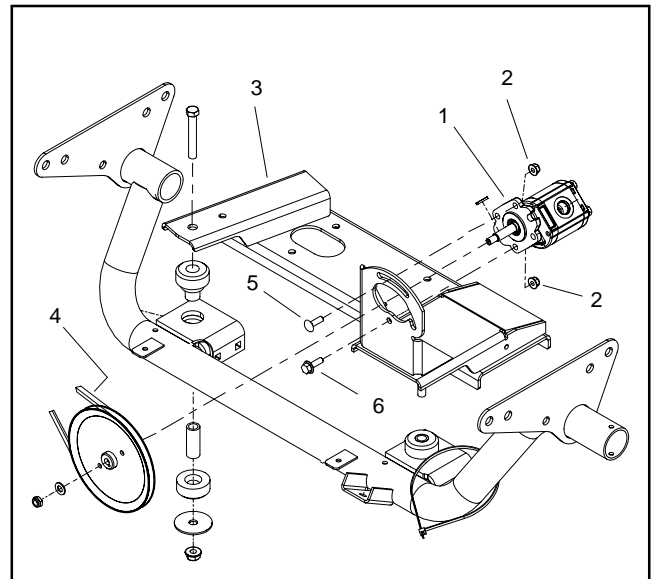

Figure 6
4. Disconnect positive cable (item 37) and fusible link harness (item 41) from starter solenoid stud on engine.
8. Loosen fasteners that secure hydraulic pump to engine mount (Fig. 6). Rotate pump toward engine to allow drive belt to be removed from pump and engine pulleys.